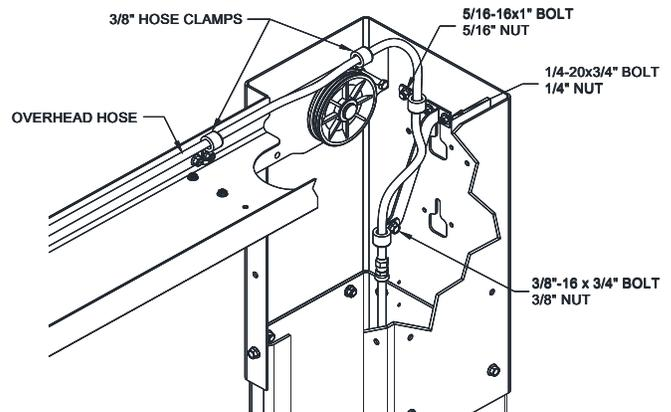

Fig. 13a – Hose Routing,
28) Install the hose support tabs to both idler and power columns using 1/4"-20NC x 3/4" lg. hex flange bolt and nut, see Fig. 13a and Fig. 13b.
29) Route the idler side hose through the idler side column as shown in Fig. 13a, taking care to avoid the synchronizing cables and hydraulic cylinder path. Uncoil the overhead hose and attach it to the idler side hose. Remove slack and tighten all 3 clamps. Route hose across overhead avoiding the synchronizing cables and down through the power side column extension as seen in Fig. 13b. Do Not Tighten clamps at this time.